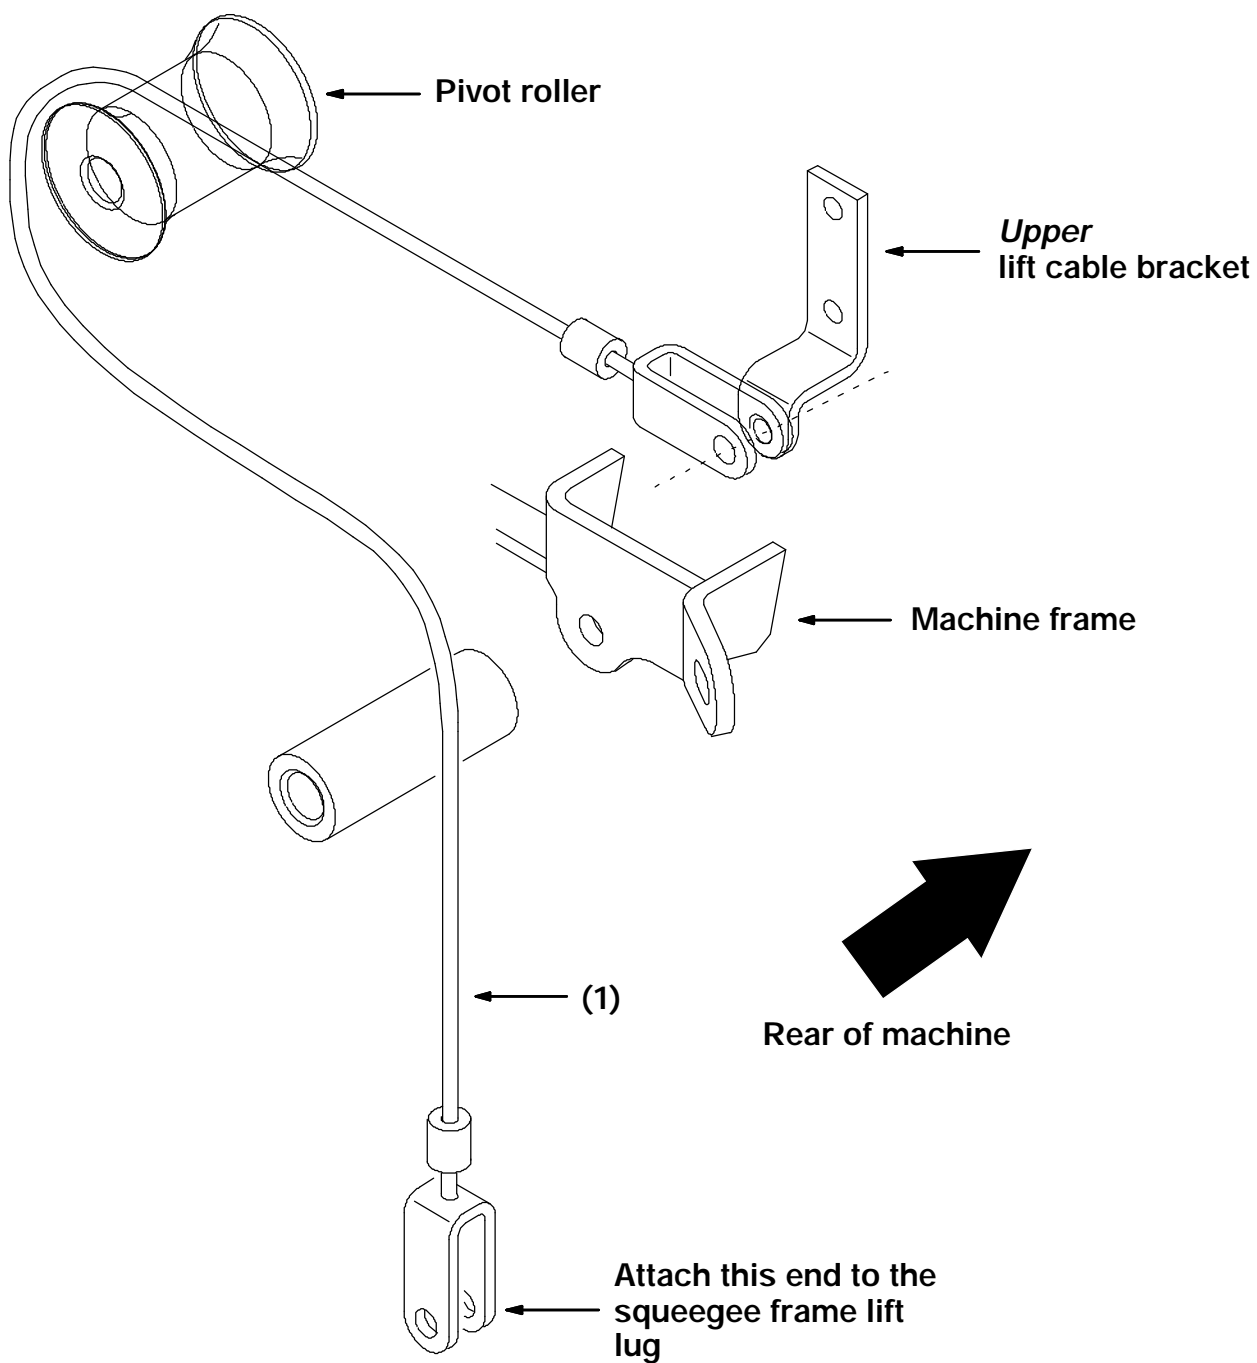

FIG. 1 – Lift Cable Assembly
(Refer to FIG. 1 and 2)
2. Remove and discard the cotter pin and clevis pin holding the old lift cable to the squeegee frame. Remove the lift cable from the squeegee frame. (Refer to Fig. 1 and 2)
3. Remove and discard the hair pin and clevis pin holding the other end of the squeegee lift cable to the **upper** lift cable bracket. (Refer to Fig. 1 and 2)
4. Remove the old squeegee lift cable from the machine and discard. (Refer to Fig. 1 and 2)
5. Install one end of the new lift cable (1) to the upper lift cable bracket using one new clevis pin (2), one flat washer (3), and the hair pin (4). (Refer to Fig. 1 and 2)
6. Route the new lift cable (1) over the top of the pivot roller in the lower bellcrank. (Refer to Fig. 1 and 2)
7. Install the other end of the new lift cable (1) to the lift lug on the squeegee frame. Use one new clevis pin (2), one flat washer (3), and the cotter pin (5). (Refer to Fig. 1 and 2)